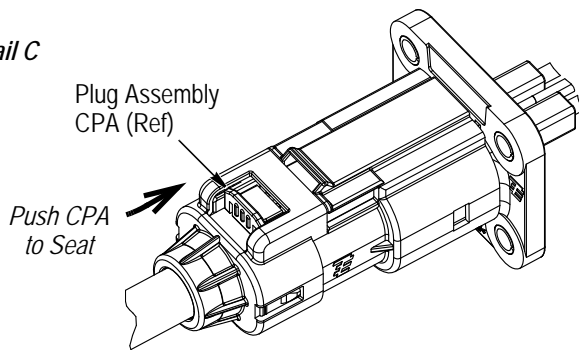

Figure 13
2. Align the mating faces of the header assembly and plug assembly. See Figure 13, Detail A.
3. Push the assemblies together until the primary latch and secondary latch engage. Note that there are two latches; therefore, there will be two audible “clicks” when the assemblies are fully mated. See Figure 13, Detail B.
5. Seat the plug assembly CPA (if present) by pushing it toward the header assembly. See Figure 13, Detail C.